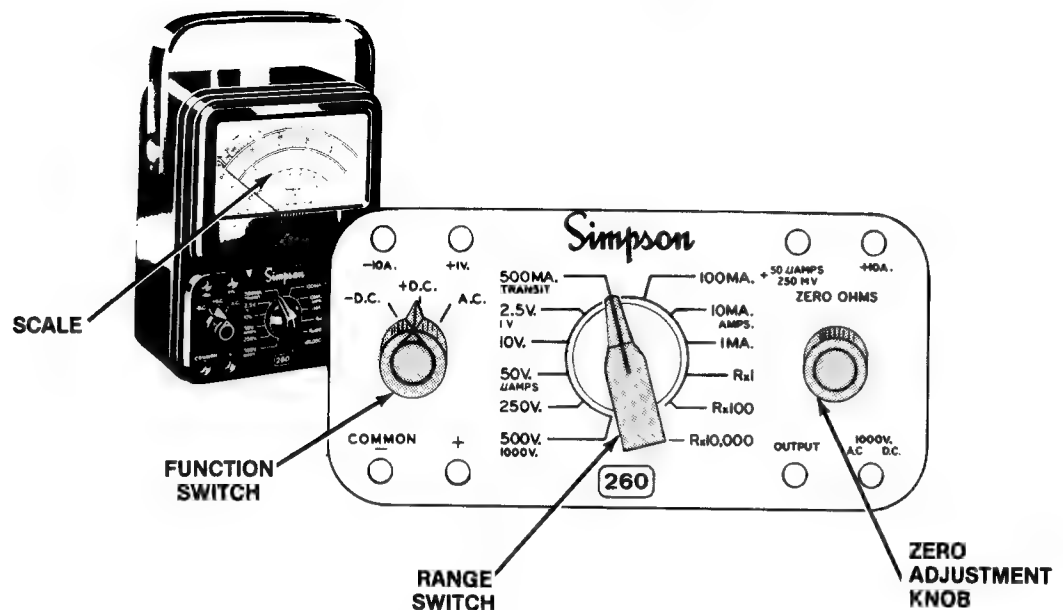

Figure 19 Simpson 260® Meter
**To Measure Direct- or Alternating-Current Voltage:** On this type of meter set the function switch to +DC or -DC (see Figure 19). These two DC settings permit you to reverse the meter's polarity without reversing the test leads. This is a timesaver when voltages are positive and negative, with respect to some reference point.